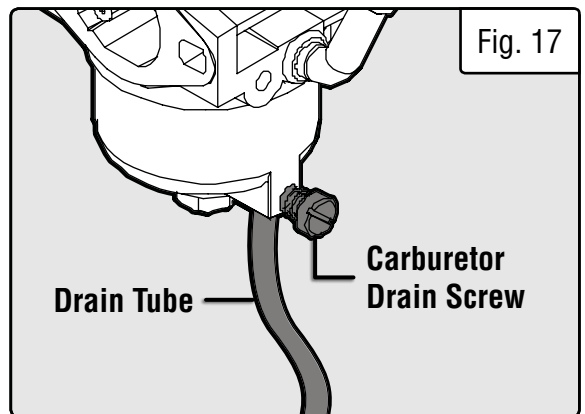

Fig. 17
5. Open up the carburetor drain screw (Fig. 17) with a flat-head screwdriver (not included) and drain out any gasoline that has built up inside the carburetor through the drain tube into the approved gasoline-storage container.